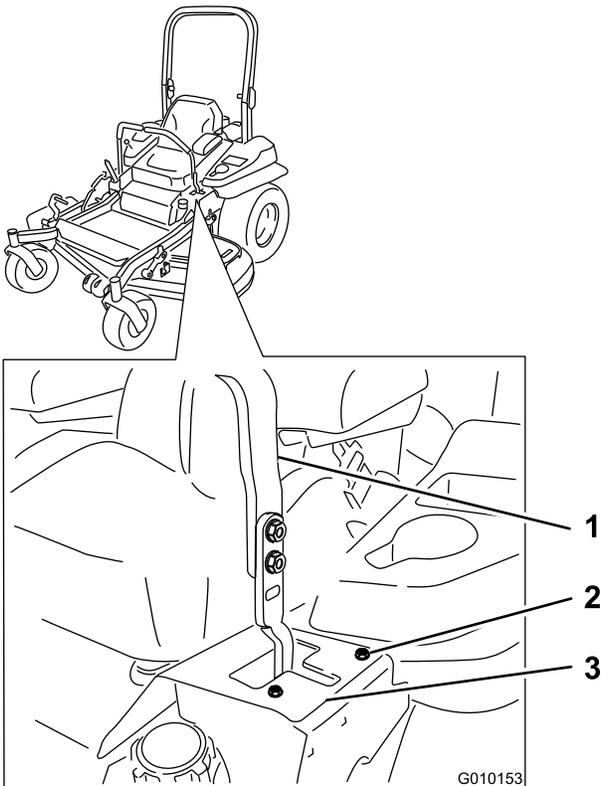

Figure 76
- If it tracks to the right, loosen the bolts and adjust the left stop plate rearward on the left T-slot until the machine tracks straight (Figure 76).
- If it tracks to the left, loosen the bolts and adjust the right stop plate rearward on the right T-slot until the machine tracks straight (Figure 76).
6. Tighten the stop plate (Figure 76).